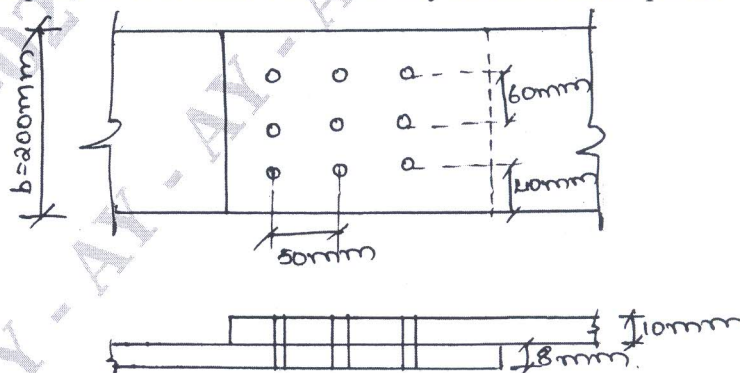

Fig.Q.3(c)
- c. Determine the efficiency of the lap joint shown in Fig.Q.3(c). Use M16; property class 5.6 bolts. The grade of plate is 410N/mm^2 . Assume any shank in shear plane. (10 Marks)